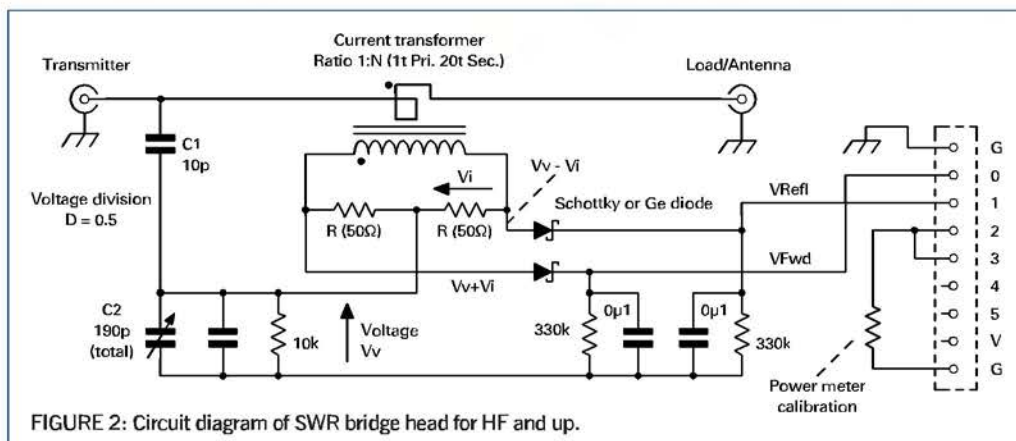

FIGURE 2: Circuit diagram of SWR bridge head for HF and up.
**RF DETECTOR HEAD.** The circuit diagram of a VSWR detector head suitable for the HF range and beyond is shown in Figure 2. This is typical of that inside many SWR bridges. A current transformer is made up from a high-permeability ferrite toroid with a single turn primary formed by the main conductor passing through the middle of the core. N turns are wound on to form the secondary winding. The result is that a current equal to  $I_{RF} / N$  is driven through each of the pair of resistors of value R so that the voltage
A voltage divider is made up from two capacitors, C1 and C2. Resistors could be used, but at high power levels they could get hot so the lossless capacitor divider is usually preferred. The 10k resistor just serves as a DC path for the diode current. The voltage division ratio D is equal to  $C1 / (C1 + C2)$ . In a system with characteristic impedance  $Z_0$ , we know from Ohm's Law that, with a perfectly matched load,  $V_{FF} = I_{RF} * Z_0$ , so by choosing D and N appropriately, we can arrange for this tapped down voltage to be equal to that delivered from the current transformer *when the load is terminated with the characteristic impedance  $Z_0$* . By adding each of the two out-of-phase current-derived voltages to the tapped down voltage (shown on Figure 2 as  $V_0$ ), one will subtract and cancel, the other will double in value when the bridge is balanced.
The condition for balance is when  $V_{RF} * D = I_{RF} / N * R$ . With a load equal to  $Z_0$   $V_{RF} = I_{RF} * Z_0$  so  $V_{RF}$  cancels, leaving  $D = R / (N * Z_0)$ .  $D$ ,  $N$  and  $R$  can now be chosen to satisfy this equation for a particular  $Z_0$  (let's keep to  $50\Omega$ ), but they can still be selected over a wide range to suit power level and practicality. The values shown bracketed in Figure 2 show a 'nice' set of values,  $R = 50\Omega$ ,  $N = 20$  and  $D = 0.05$ . The balance equation is satisfied since  $50 / (20 * 50) = 0.05$ .
to analogue channel 3. Connections are shown in Figure 2.